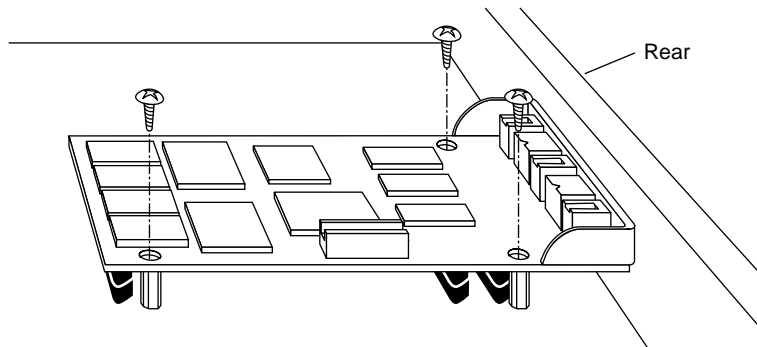

Figure 21 Installing a single-width GIO option board
- Using a Phillips screwdriver, insert and tighten the screws you removed earlier to connect the GIO option board to the graphics board, as shown in Figure 21. As you tighten the screws, alternate among them so that the board is connected evenly.